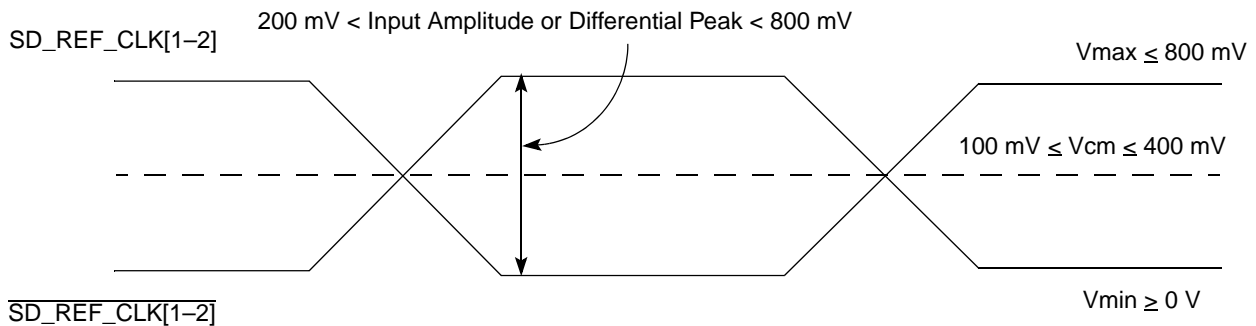

Figure 6. Differential Reference Clock Input DC Requirements (External DC-Coupled)
- For an external DC-coupled connection, the maximum average current requirements sets the requirement for average voltage (common mode voltage) as between 100 mV and 400 mV. Figure 6 shows the SerDes reference clock input requirement for DC-coupled connection scheme.